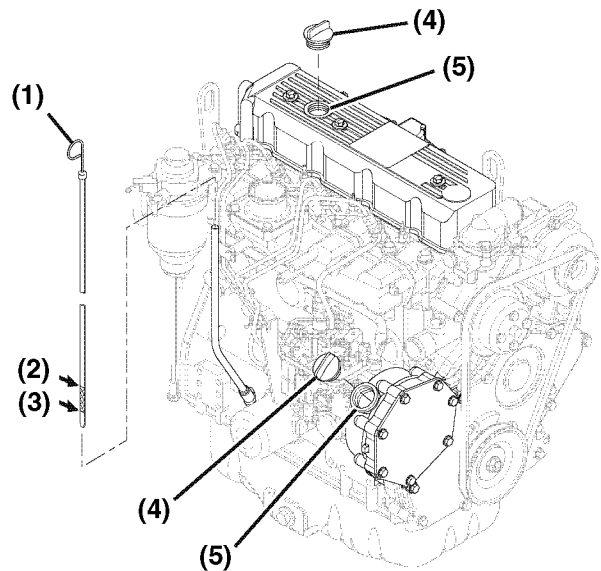

Figure 4
2. Remove dipstick (**Figure 4, (1)**) and wipe with clean cloth.
4. Remove dipstick. The oil level should be between upper (**Figure 4, (2)**) and lower (**Figure 4, (3)**) lines on the dipstick.
2. Remove oil cap (**Figure 4, (4)**).
3. Add indicated amount of engine oil at the top or side engine oil filler port (**Figure 4, (5)**).
6. Replace oil cap (**Figure 4, (4)**) and hand tighten. Over-tightening may damage the cap.